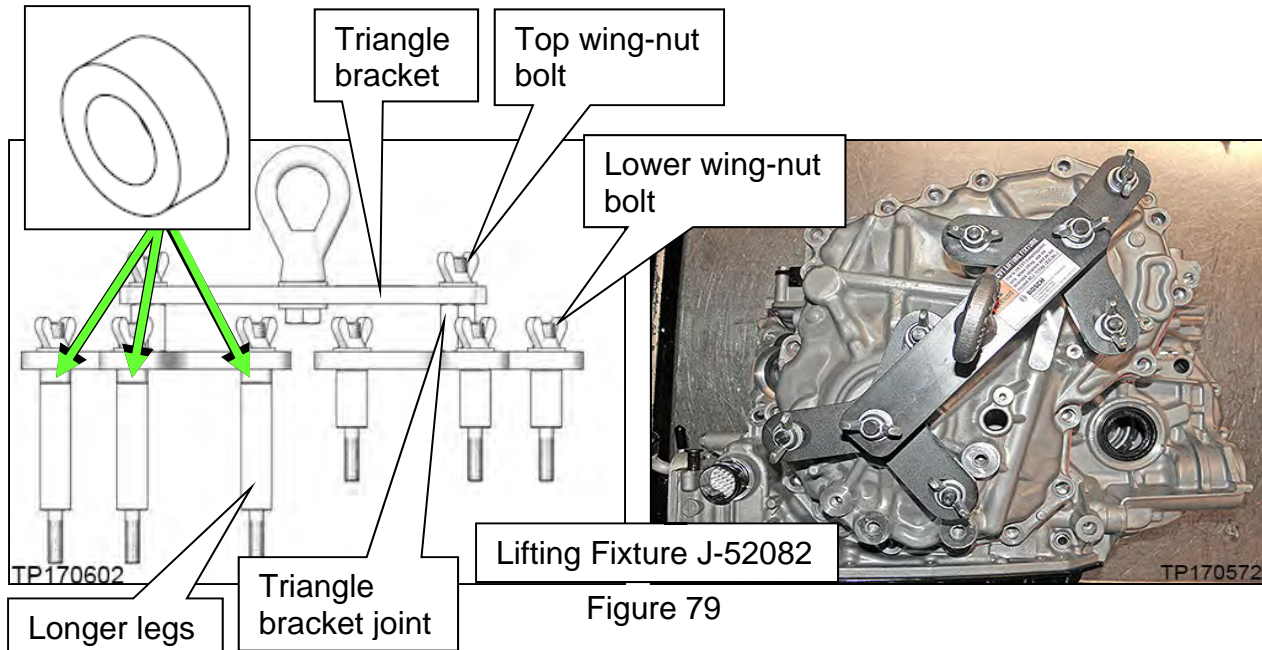

Figure 79
58. Remove the six (6) pulley bracket bolts.
59. Attach universal Lifting Fixture J-52082 with spacers J-52082-2 to the side cover as shown in Figure 79.
- Confirm that three (3) spacers (# J-52082-2) are present between the longer legs and triangle bracket as shown in Figure 79.